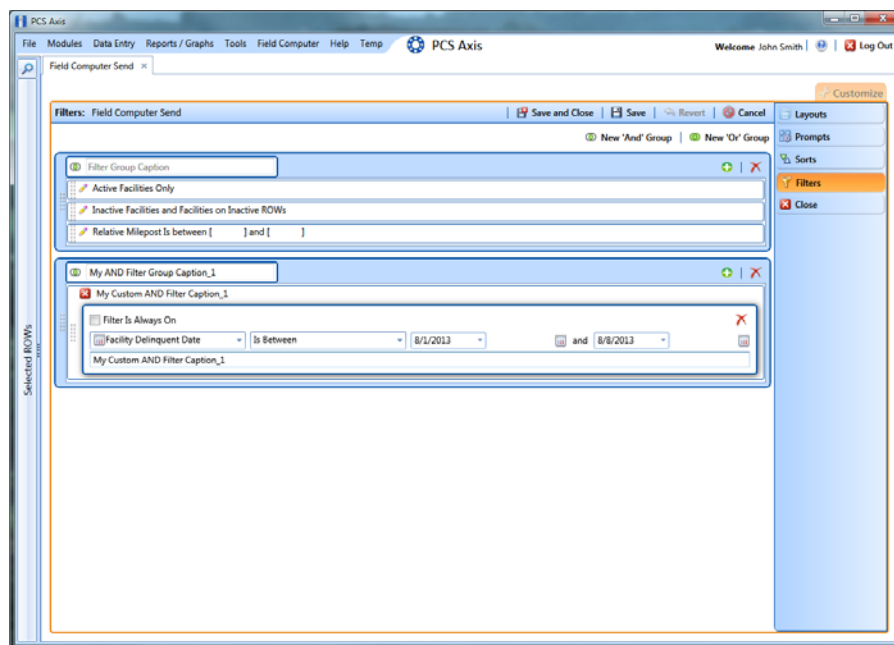

Figure 12-35. New 'And' Filter Group
- 4 Click the **Customize** tab , then the **Filters** button  to open the *Filters* page (Figure 12-35, page 510).
- 5 Click  **New 'And' Group** to open the filter properties group box (Figure 12-35, page 510).
- 8 If the AND filter group includes a date filter, such as *Facility Delinquent Date Is Between* shown in Figure 12-35, set a date range using a calendar or dynamic dates in the following manner: